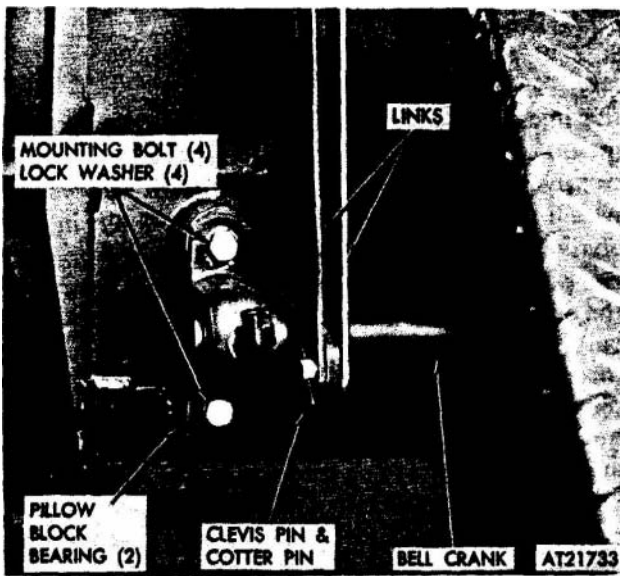

Figure 2-79. Pillow block and bell crank
(6) Remove clutch control rod from bell crank, located in air duct tunnel by removing cap screw, lock washer, and nut.
(7) Remove rod end from clutch control rod at end of bell crank by loosening nut. Remove rod end and nut.
(8) Remove two links by removing clevis and cotter pins (fig 2-79).
(9) Remove bell crank and two pillow blocks by removing bolts and lock washers.
(1) Attach one pillow block to vehicle frame with two bolts and lock washers (fig 2-79).
(2) Attach bell crank by sliding left end of bell crank into installed pillow block, install remaining pillow block on other end of bell crank, and secure pillow block to vehicle frame within the air duct tunnel with two bolts and lock washers.
(3) Attach two links to either side of tab on shaft and secure with clevis pin and cotter pin. Attach other end of links to left tab on bell crank and secure with clevis pin and cotter pin.
(4) Insert washer on end of shaft. Attach clutch pedal to shaft by sliding pedal on shaft and